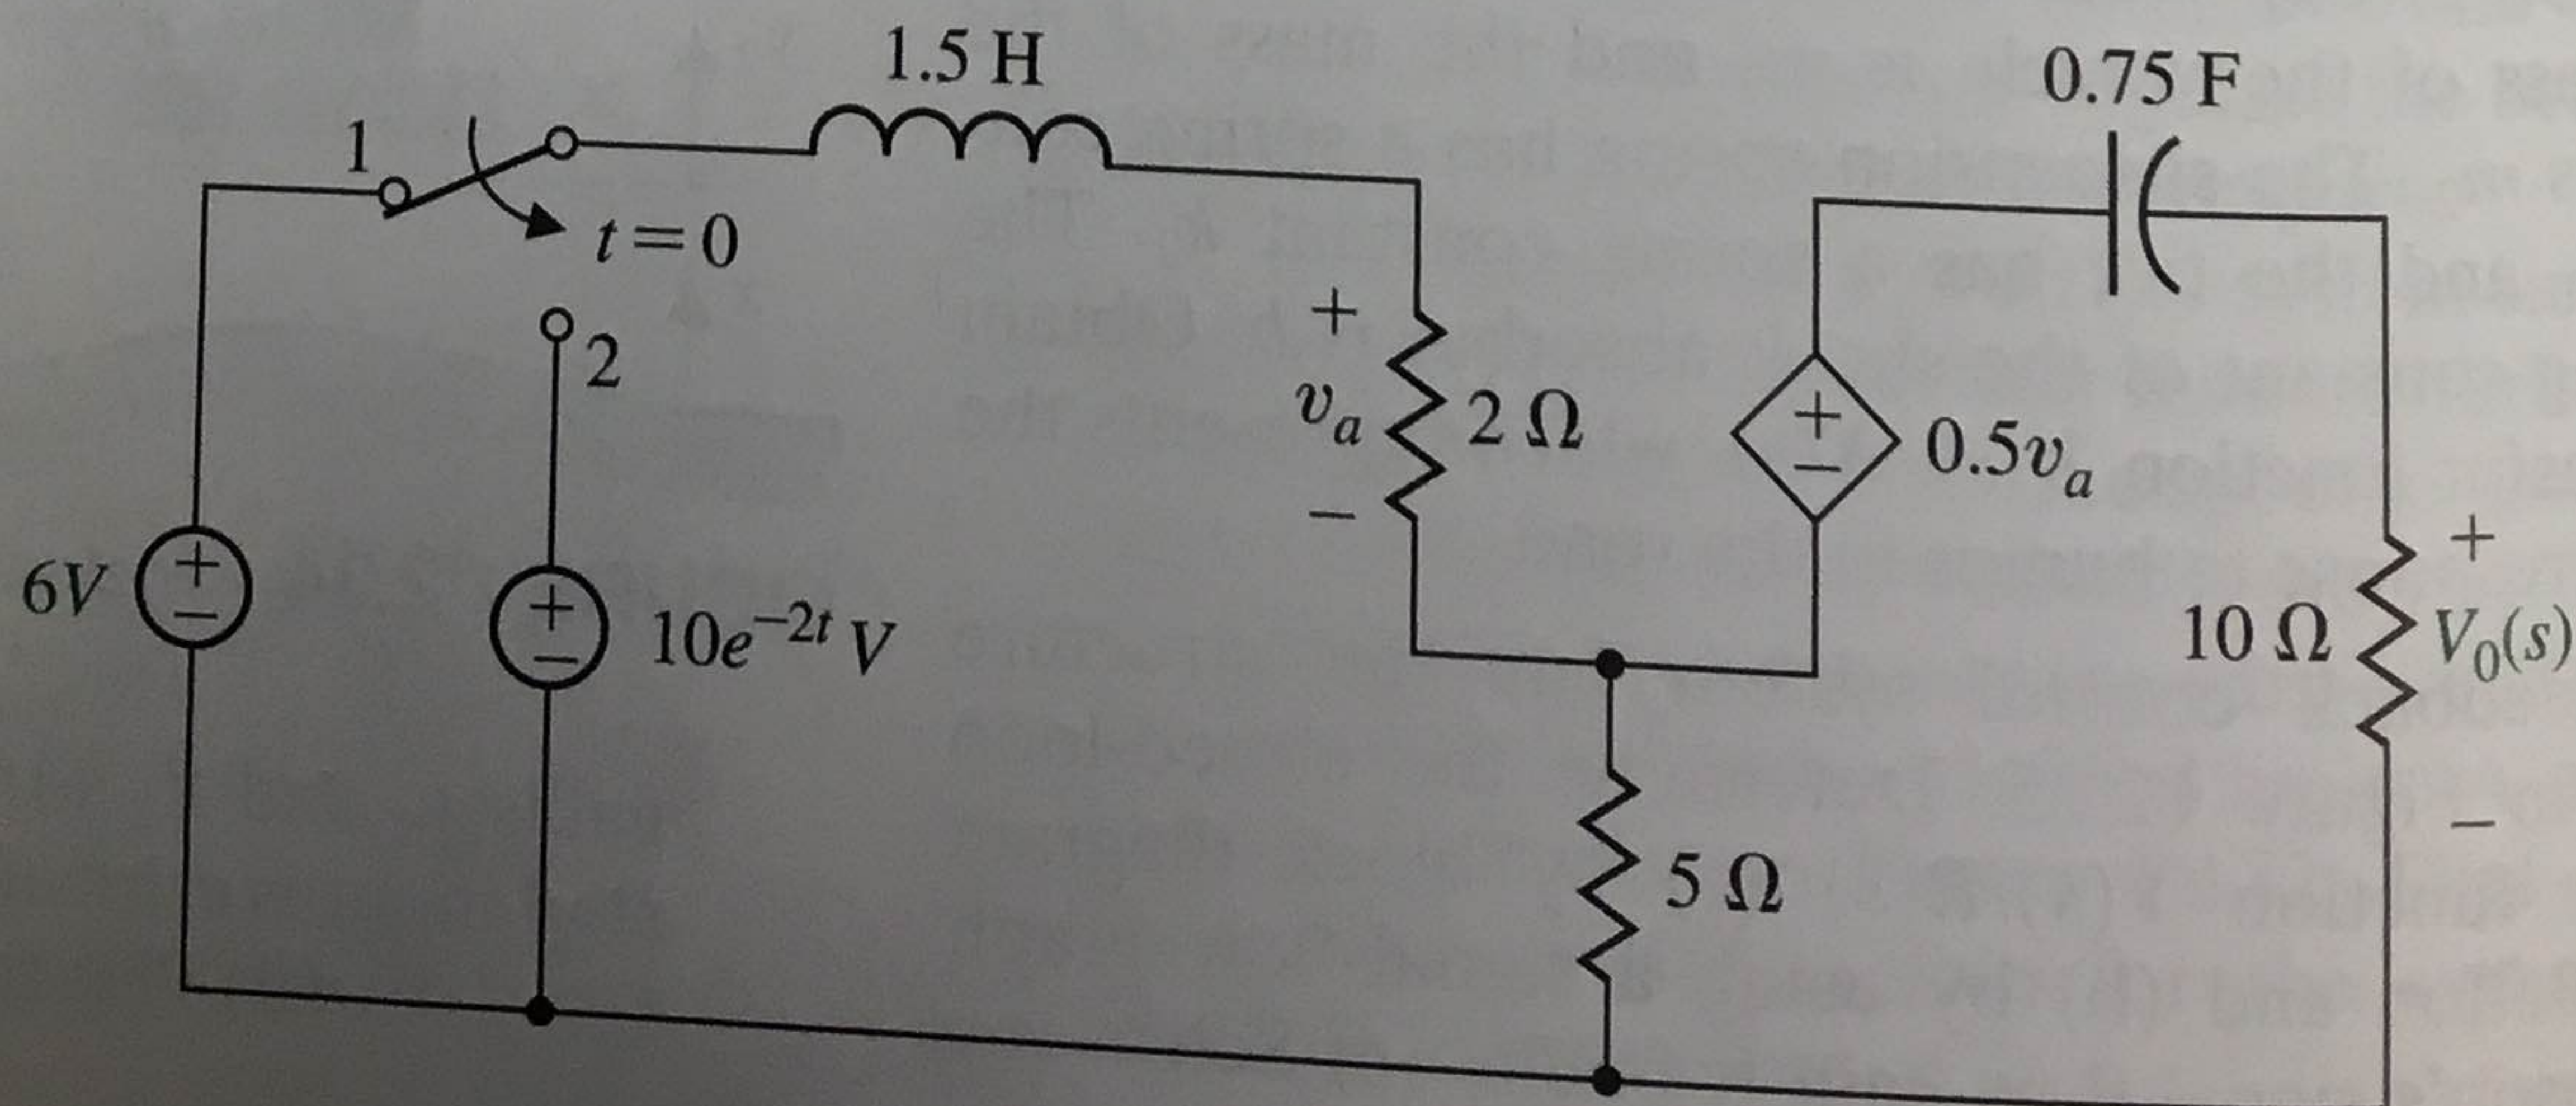

FIGURE P2.39 Model of an electronic circuit.
- P2.39** For the circuit of Figure P2.39, determine the transform of the output voltage $V_0(s)$. Assume that the circuit is in steady state when $t < 0$. Assume that the switch moves instantaneously from contact 1 to contact 2 at $t = 0$.